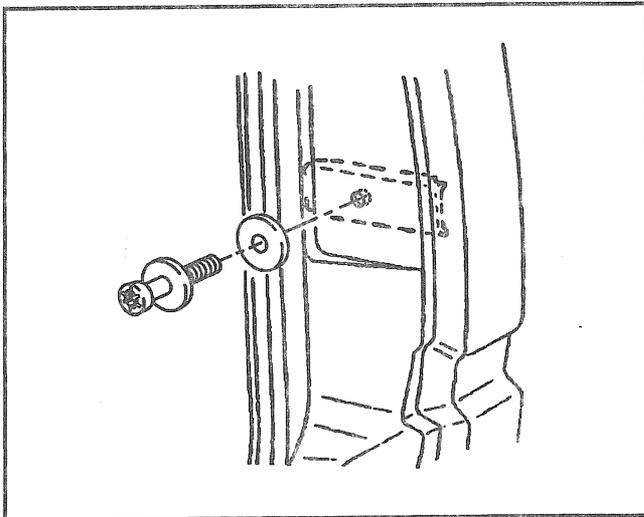

Figure 65—Door Striker
**Remove or Disconnect (Figure 65)**
**Install or Connect (Figure 65)**